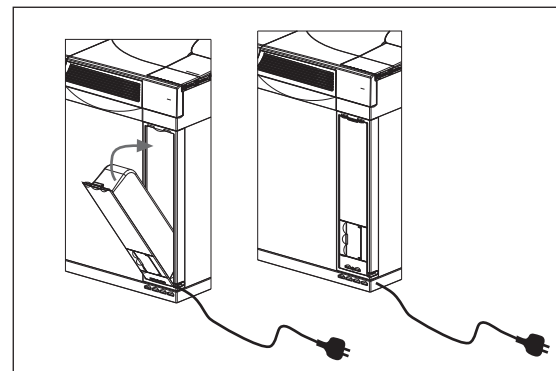

Figure 25: Inserting the power center
9. Hold the power center with the cable at the bottom. Insert the power center power cord into the cable niche at the bottom of the back wall. Insert the power center into the power center housing. Use the lip at the bottom to position the box properly. (Fig. 25) and push until the power center snaps into position at the top.